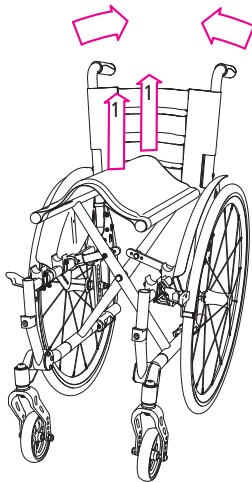

Fig. 29
4. Then pull the cover upwards in the middle of the seat (1, Fig.29). The wheelchair then folds automatically.